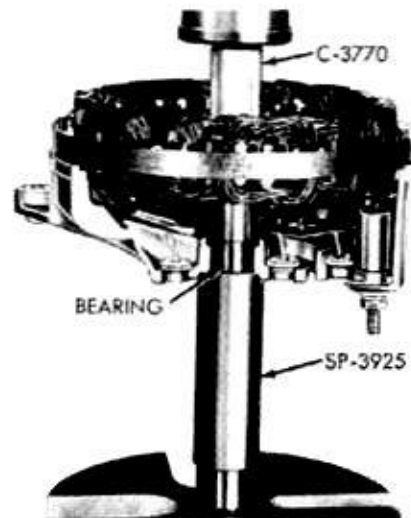

Fig. 21—Removing Rectifier End Shield Bearing
(12) The needle roller bearing in rectifier end shield is a press fit. If necessary to remove rectifier end frame needle bearing, protect end shield by supporting shield with Tool C-3925 when pressing bearing out with Tool C-3770A (Fig. 21). Make sure notches in tool clear raised section of heat sink. **The new bearing is prelubricated and no additional lubricant should be added, as an excessive amount of lubricant will contaminate the slip rings and cause premature brush and rotor failures.**